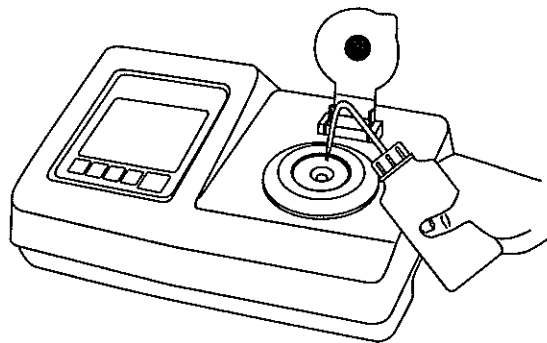

Fig.12-4
- d) Put 0.1 ml of distilled water on the prism surface and close the cover plate. Then, press SW1 (ENTER). (Fig.12-4)